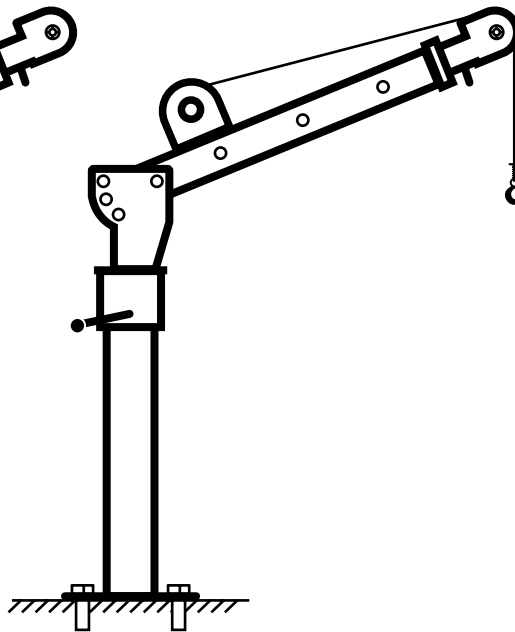

Fig. 5
5. Feed the hook and wire rope through the crane pulley (Fig. 5). Additionally you may use the provided extra pulley to use the crane at it's maximum rated capacity.